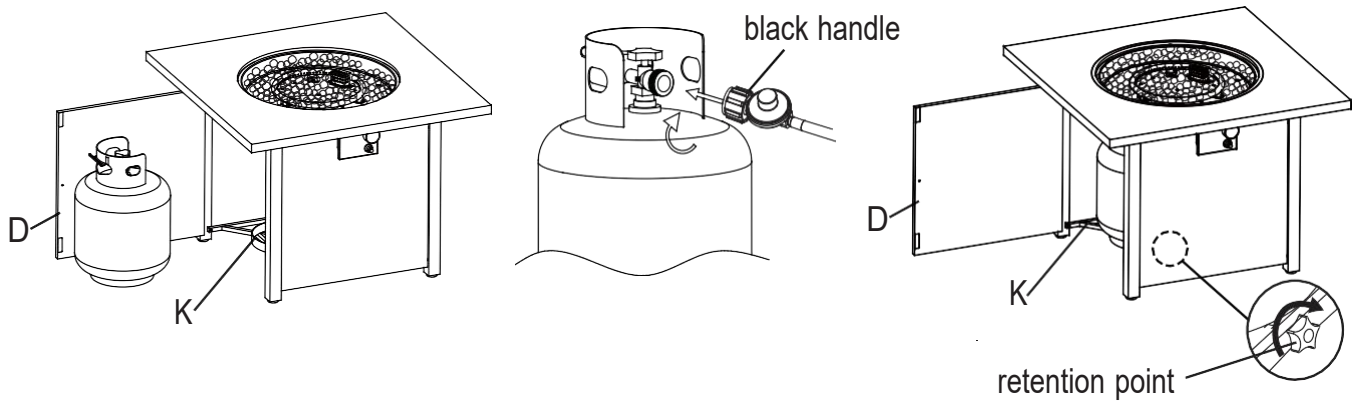

Figure 10
10. Open the door panel (D). Place the gas cylinder into the gas cylinder support (K) and connect the regulator by turning the black handle clockwise to tighten. To remove the regulator, turn the black handle counter-clockwise. Secure the gas cylinder by tightening clockwise the retention point found on gas cylinder support (K), (see Figure 10), so that the gas cylinder cannot move from side to side or fall down. The knob on the control panel is turned all the way to the "OFF" position when the fire pit is NOT in use.